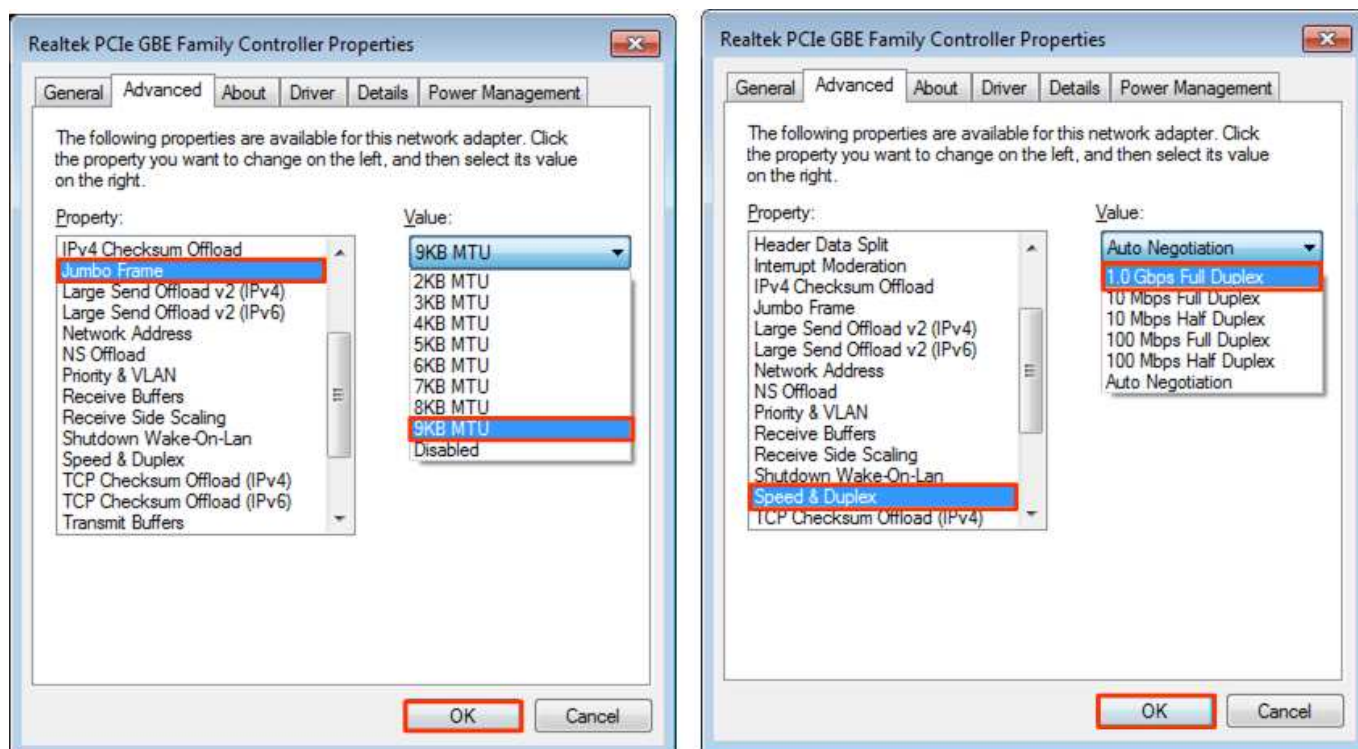

Figure 4 Link speed and Jumbo frame setup
- On Advanced Tab, select “Jumbo Packet” and then set Value to “9KB MTU” for Jumbo Frame support or set value to “Disabled” for non-Jumbo Frame support, as shown in left window of Figure 4.
- On Link Speed, select “1.0 Gbps Full Duplex” for running Gigabit transfer test, as shown in right window of Figure 4.